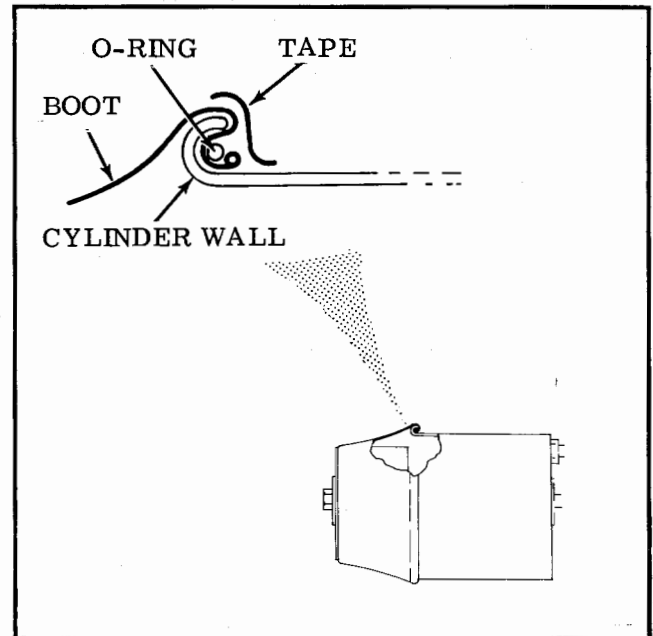

Figure 6-21. Servo Cylinder Seal Wrapping
a. Rotate control wheel and move rudder pedals. Servo attachments must be tight, and servo pistons must extend without stretching rubber seals. Inspect servo piston seals for deterioration and condition of tape around perimeter. If tape has deteriorated or if cylinder is leaking, retape seal to cylinder wall as shown in Figure 6-21 using Scotch #33 Electrical Tape.